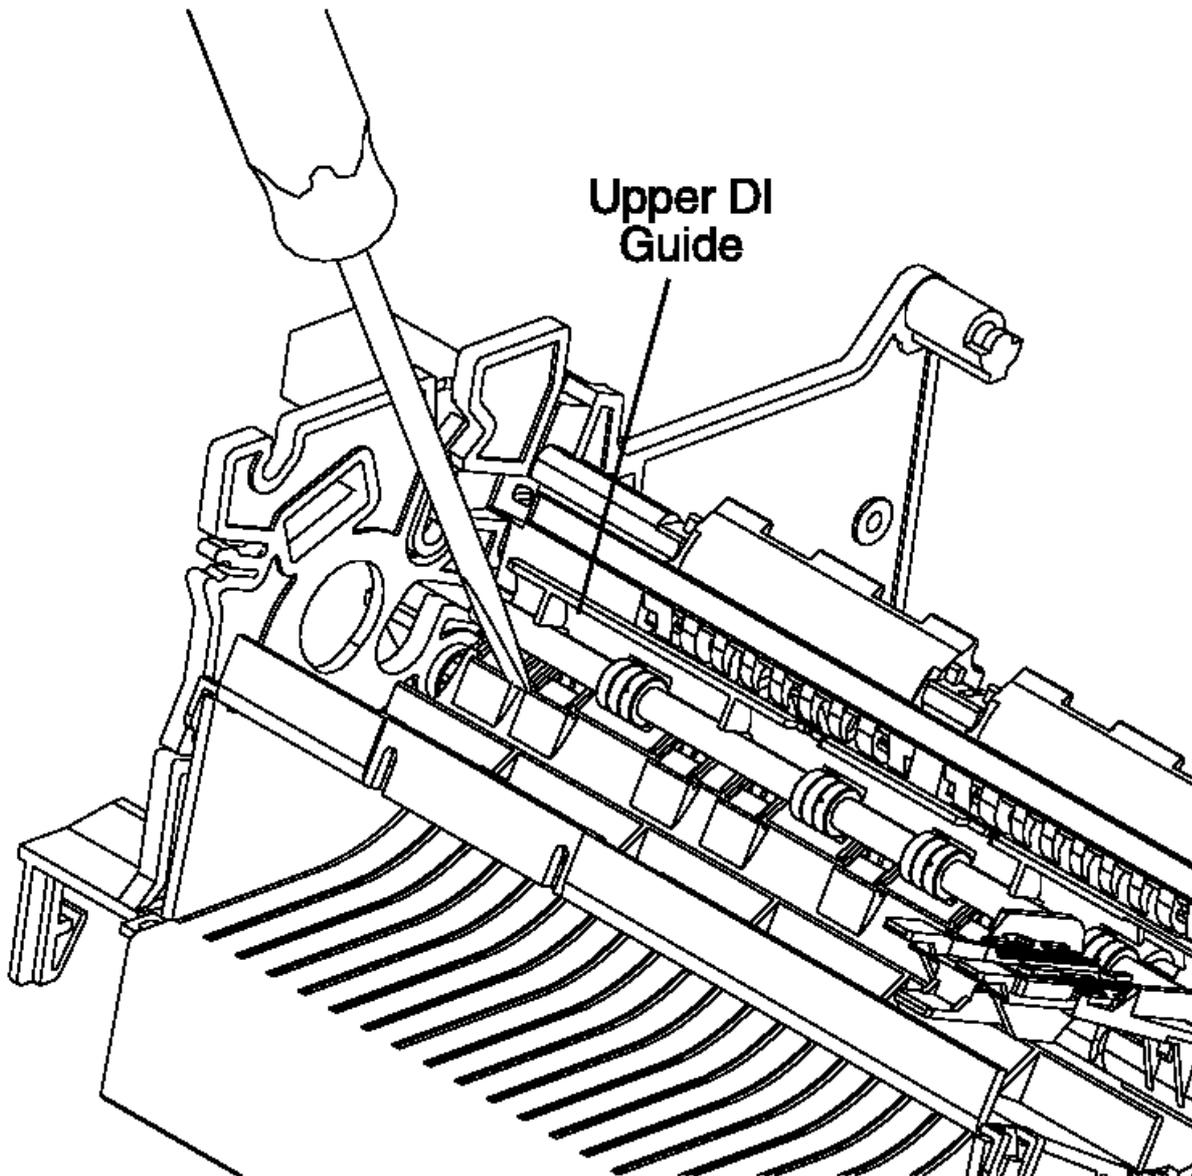

Figure 6-49. Upper DI Guide Removal and replacement
5. **LATER STYLE** - Using a screwdriver blade, starting at the left side, pry the guide away from the white tab holding it in place. Repeat this to release the guide from all tabs, left to right. See Figure 6-49 in topic 6.38.4.2.